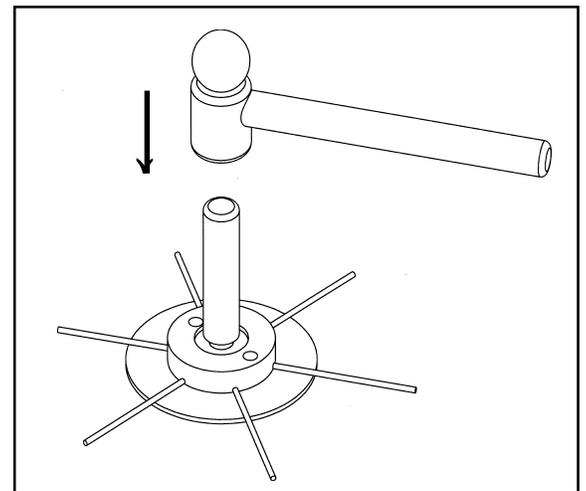

Fig. 5
12. Gently lay the flywheel down on its side with the flat side of the wheel up. Take the open cage half (this is the one with the chain guide and wire for the monitor on it) and start the bearing onto the end of the axle. The third and final tool is then used to push the bearing back onto the axle. One end of the tool is countersunk; this is the end to use toward the axle. Center the tool, countersunk end down, on the bearing at the center of the cage and gently tap the end with a hammer. When you feel the axle bottom out in the tool, stop tapping. The end of the axle will go into the countersink the correct distance so a clip can be inserted. See Fig. 5.